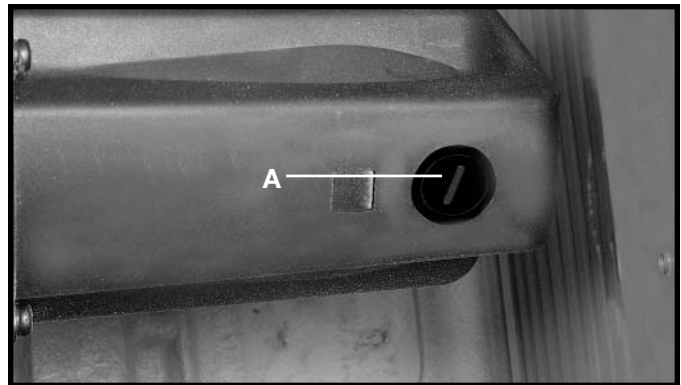

Fig. 47B
2. One brush holder is shown at (A) Fig. 47B. (From underneath the saw table).
4. To inspect the other brush, remove the table insert and saw blade. The other brush is located 180 degrees from brush (A) Fig. 47B.